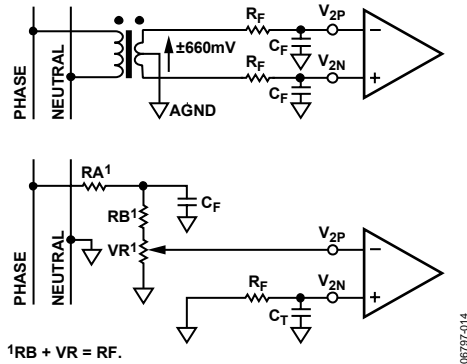

Figure 16. Typical Connections for Channel V2
Figure 16 shows two typical connections for Channel V2. The first option uses a potential transformer (PT) to provide complete isolation from the main voltage. In the second option, the ADE7761B is biased around the neutral wire, and a resistor divider is used to provide a voltage signal that is proportional to the line voltage. Adjusting the ratio of RA and RB + VR is a convenient way to carry out a gain calibration on the meter.